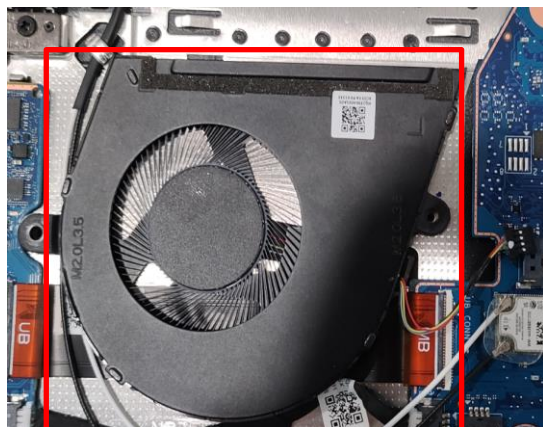

Figure 3-25. FAN
2. Install the FAN to C cover (Figure 3-25).